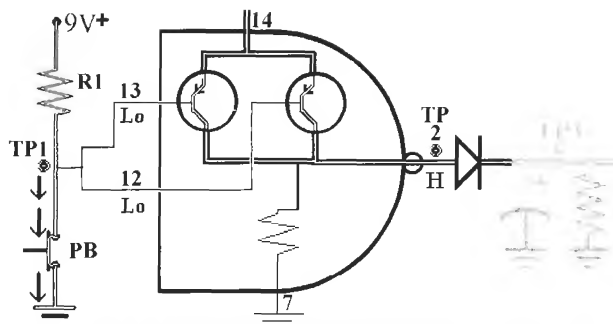

Figure L18-2
- Both inputs of the NAND gate are now connected directly to ground; that is to say, they are **tied to ground** as shown in Figure L18-2. Remember that in the NAND gate, if either input receives a low produces a high output.